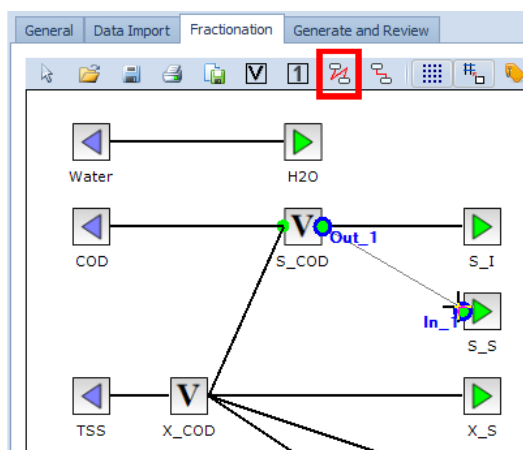

Figure 5.26 Fractionation Model: draw a Connection
- hover over the outgoing terminal of the first Block (the terminal will be *activated*, Figure 5.26),